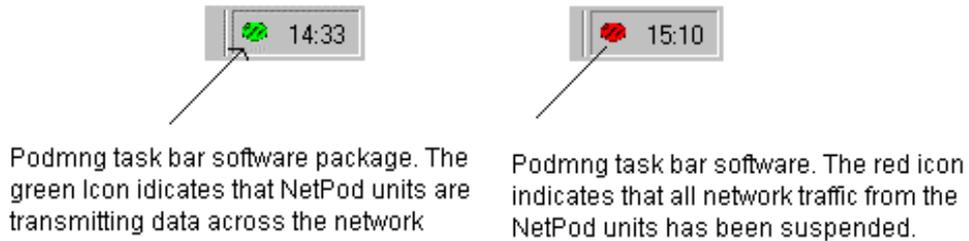

Figure 22 - Taskbar Operations Indication
- 3) Using the LoggingCfg setup dialog box (See Figure 22) simply enter the file name and directory location where you want to store the error log. Enter the error log file name in the space provided for this information.